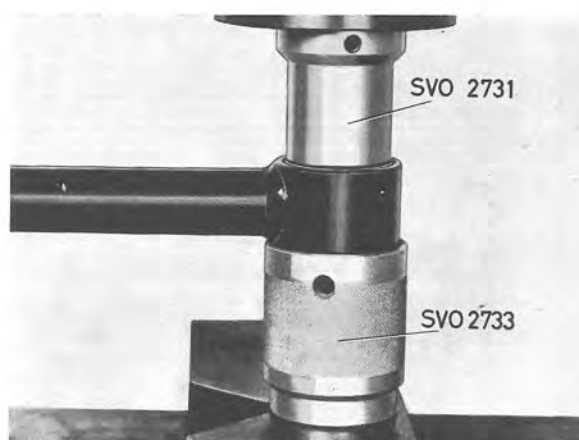
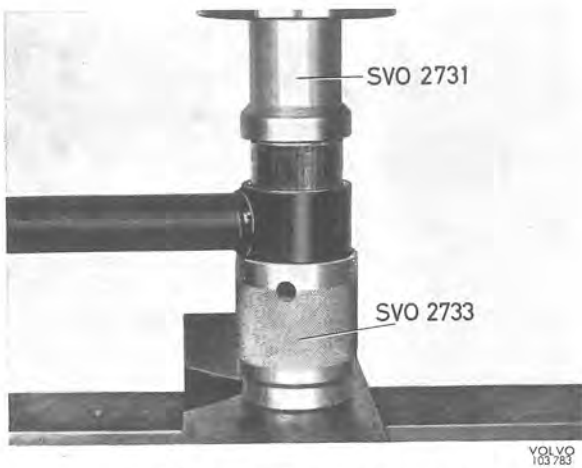

Fig. 7-13. Removing large bush, track bar
Fig. 7-14. Installing large bush, track bar
4. If necessary, press out the small bushes with SVO 2730 using SVO 2733 as a counterhold (Fig. 7-13). Pressing in the bushes can be done with the same tools only in this case SVO 2730 is reversed (Fig. 7-14).